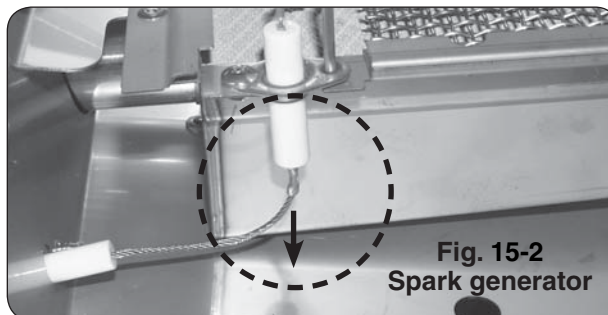

Fig. 15-2
3. Disconnect the ignitor wire from the bottom of the electrode assembly on the infrared burner (see Fig. 15-2).